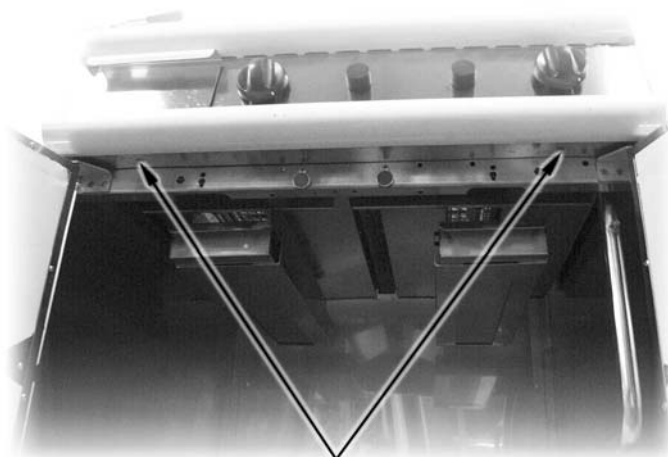

Fig. 4
- Open the door and unscrew the fixing screws on the control panel as shown in Fig. 4;